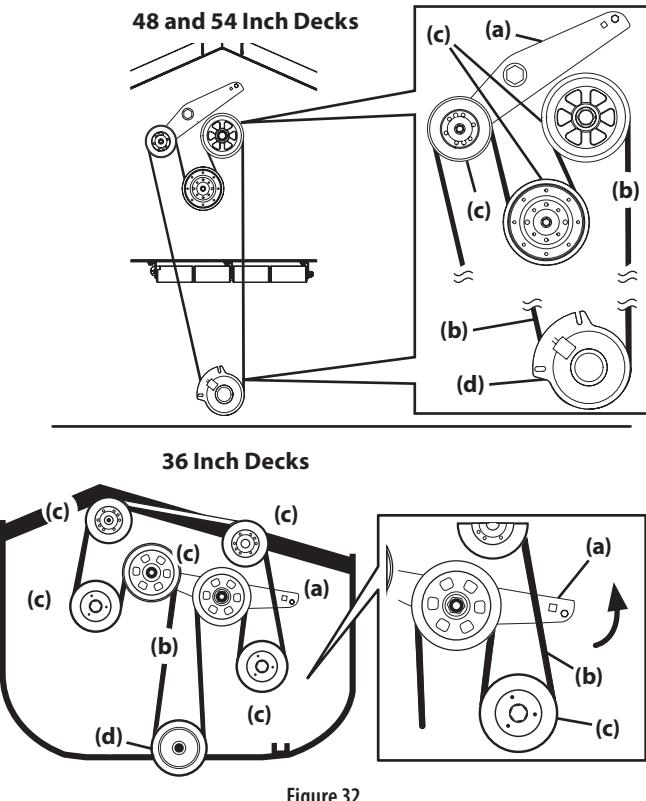

Figure 32
3. Using a 1/2"(12.7 mm) drive in the idler pulley bracket (a), turn the wrench towards the front of the mower and slide the PTO belt (b) off the deck pulleys (c) and the PTO clutch (d). See Figure 32.